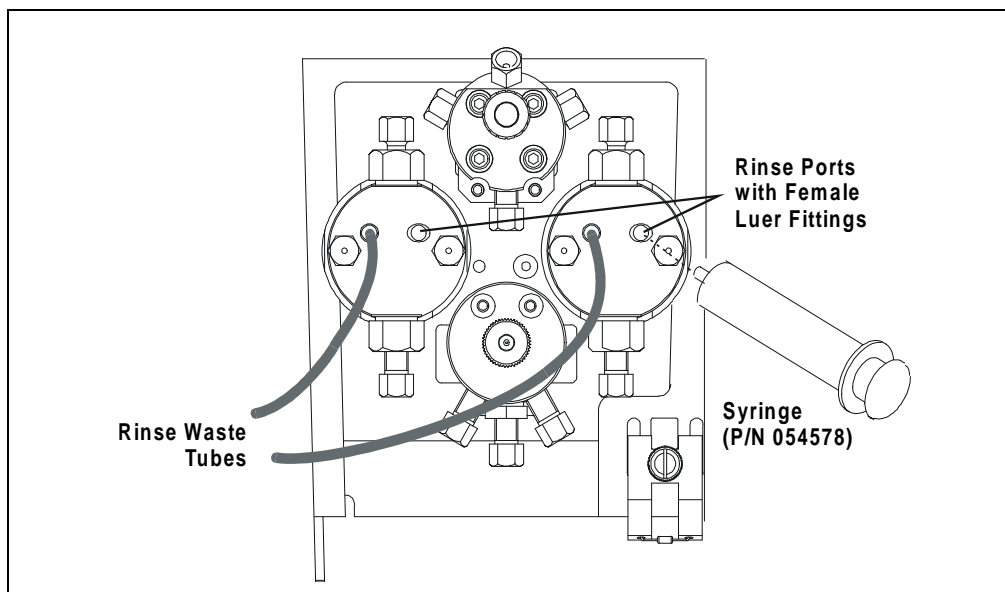

Figure 3-4. Rinsing the Pump Heads
1. Open the lower door of the IC25A and locate the rinse ports on the front of the pump heads (see Figure 3-4).